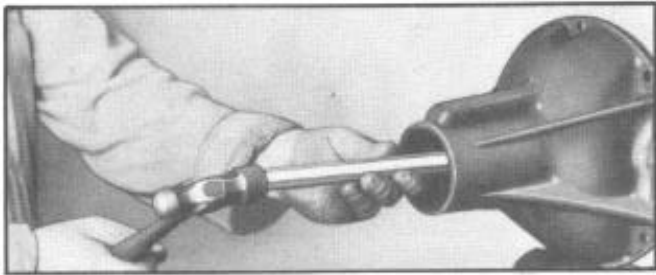

Figure 11--Removing Front and Rear Pinion Shaft Bearing Cups
34. Remove front and rear pinion shaft bearing outer cups from carrier using pinion bearing cup remover HM 63 as shown in Figure 11.